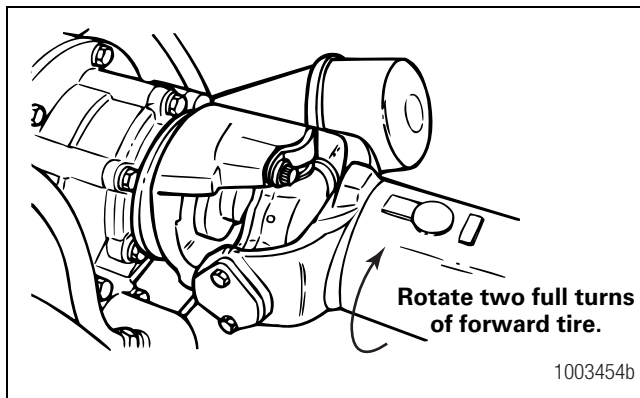

Figure 4.17
6. Turn the forward driveshaft in one direction by hand until the forward tire completes two rotations. Figure 4.17. The forward tire must rotate two times only. If the forward tire rotates more than or less than two rotations, the angle measurements you make in Step 7 will be inaccurate.